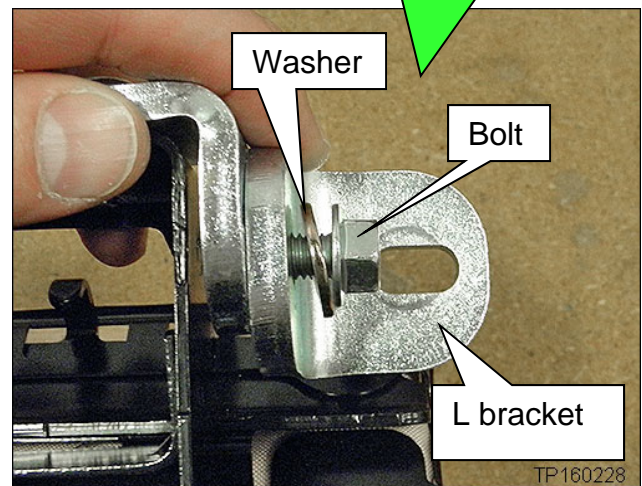

Figure 29
26. Put a washer between the bolt and L bracket (on the right side as viewed in Figure 29).